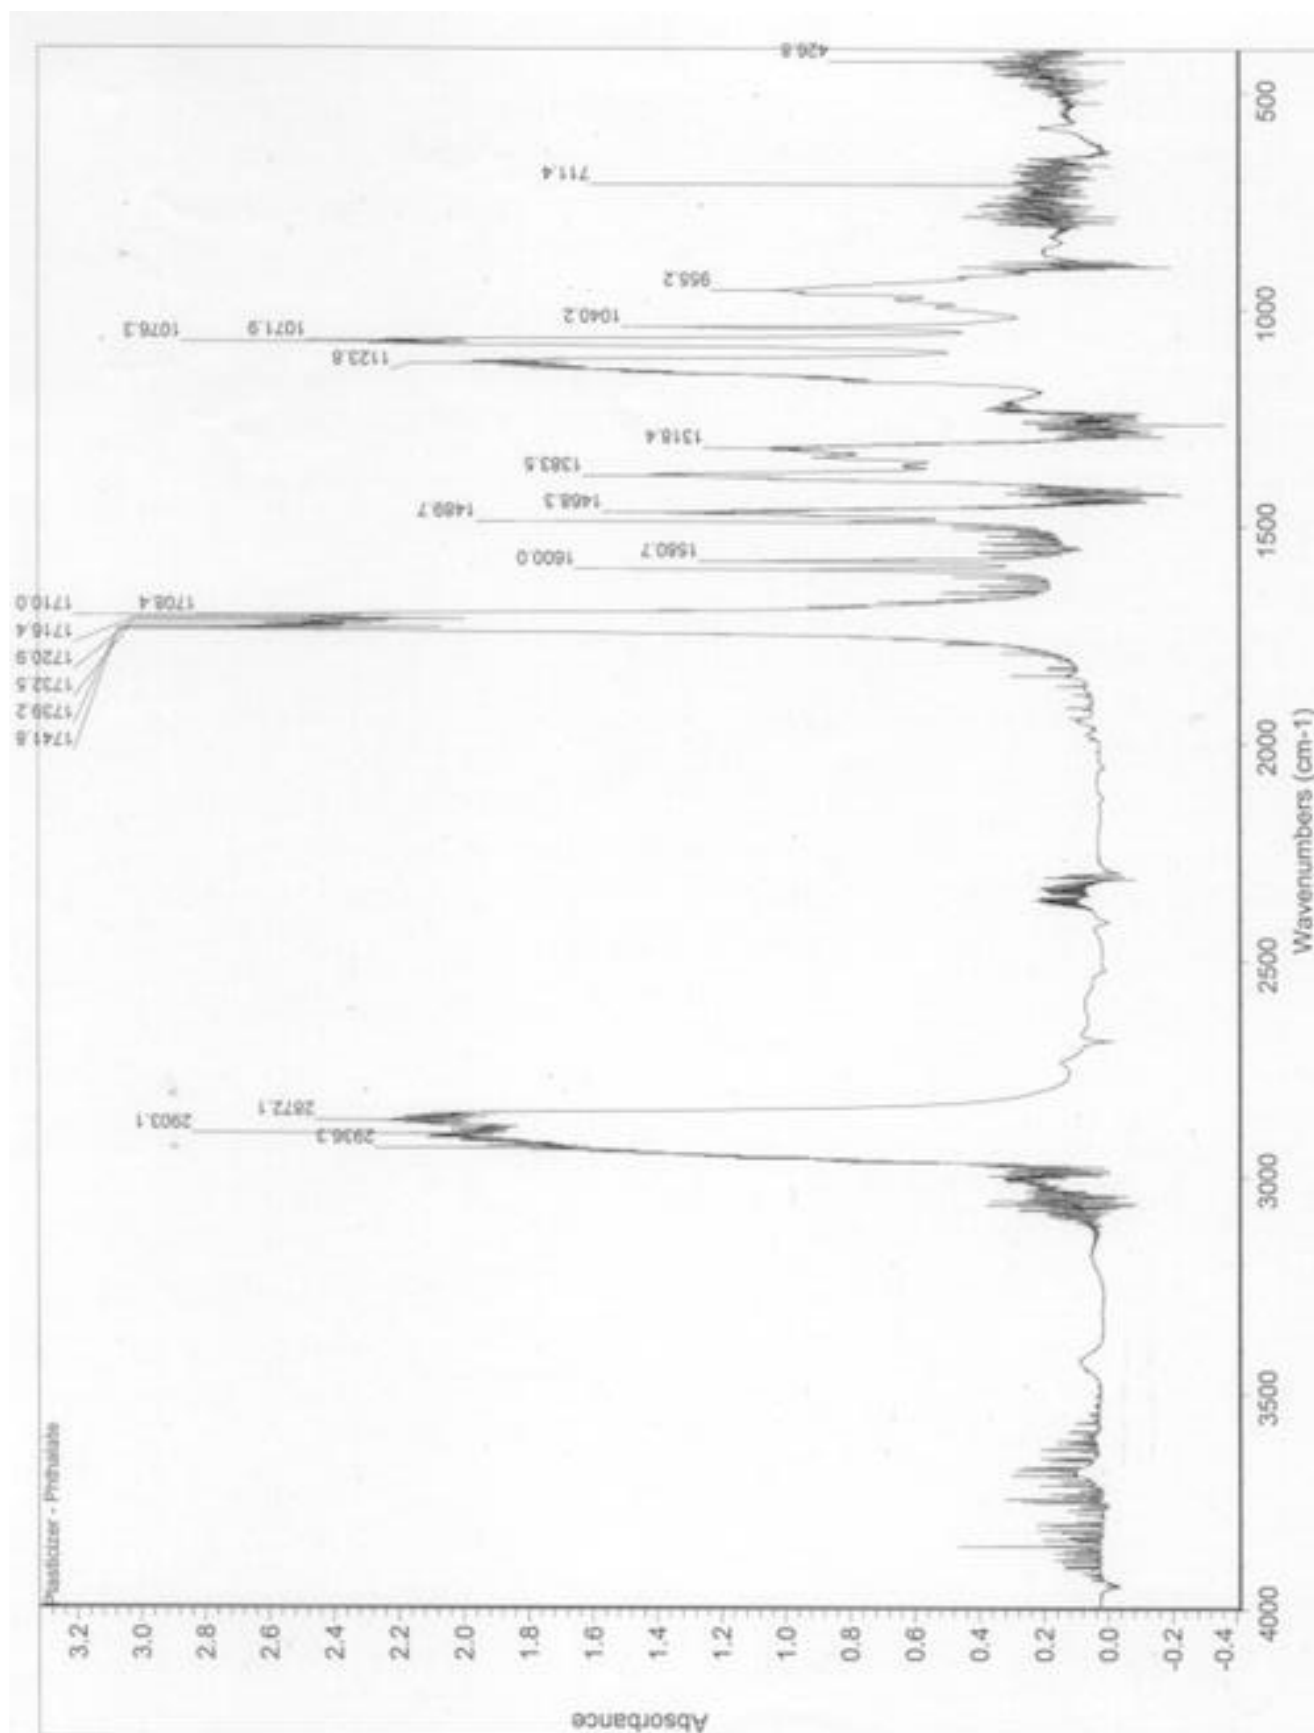
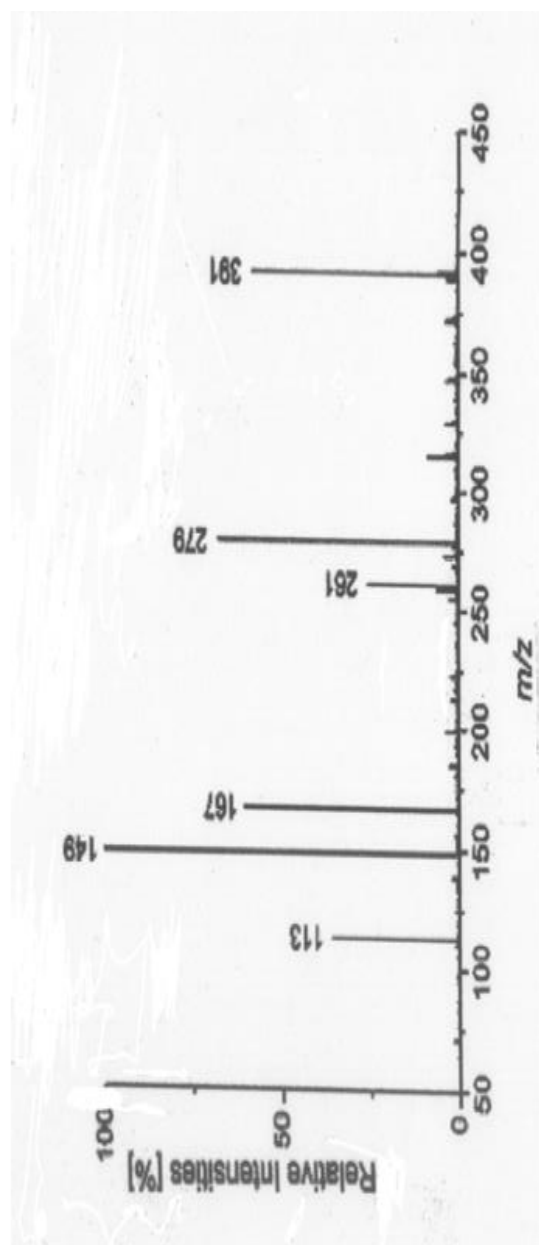

Figure 3 - FT-IR of plasticizer in methylene chloride
Figure 4 GC-MS Spectra.
2. Attached are the NMR spectra (Fig. 2), FT-IR spectra (Fig. 3), and GC-MS spectra (Fig. 4) of the plasticizer phthalate (See below). The molecular formula for the molecule is  $C_{24}H_{38}O_4$ . With the given information, what is the name and structure of the plasticizer in the Tygon® tubing? In addition, label the peaks in the carbon and proton NMR spectra.